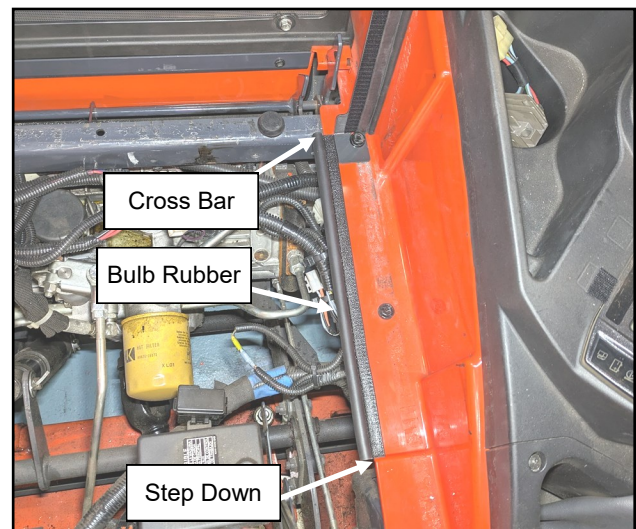

Fig. 10.3 (Install Bulb Rubber)
10.3 See fig. 10.3. Install one of the supplied strips of bulb rubber to the inside lower edge of the left fender. It should go from the step down at the front to the cross bar at the back.